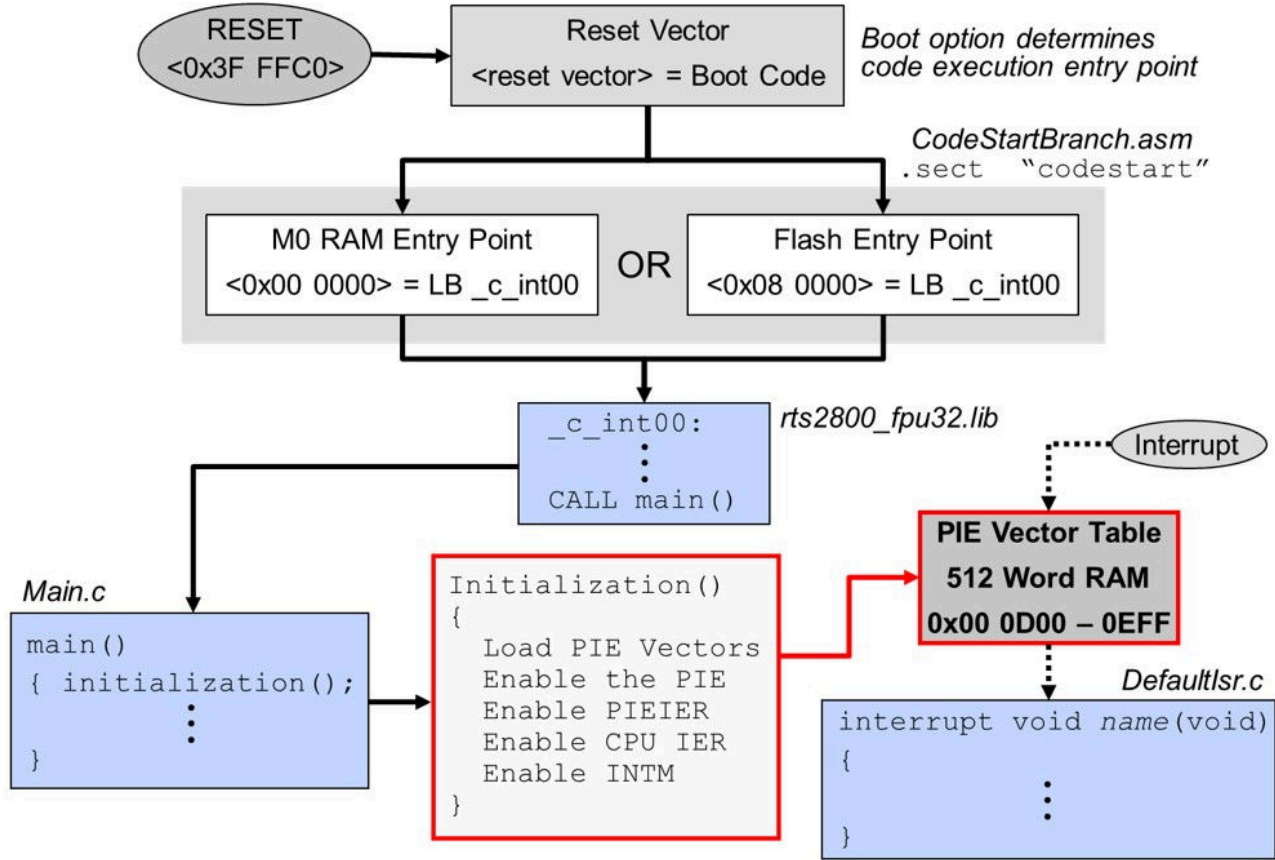

Figure 4. Interrupt PIE Initialization Code Flow
3. Prepare for the interrupt service routine and save register values, as described in Figure 4.
Figure 4 shows how C28x generates and responds to interrupt service functions.